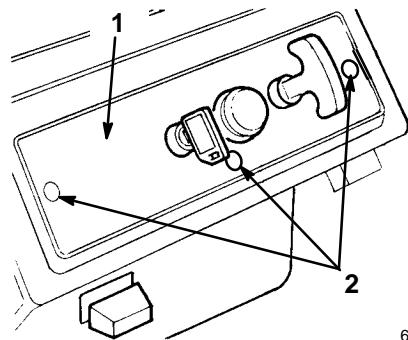

Figure 19
- Remove the three mounting screws that secure the control panel to the housing (Fig. 19).